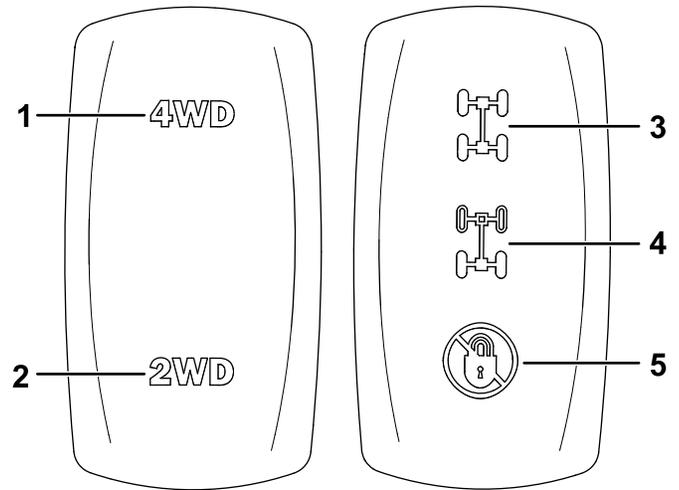

Figure 17
2. Press the 2-wheel drive/4-wheel drive switch (Figure 17) up to engage 4-wheel drive.
With your foot off the accelerator pedal, disengage 4-wheel drive by pressing the 2-wheel drive/4-wheel drive switch to the down position (Figure 17).
2. Press the differential-lock switch to the mid position to engage the rear differential lock (Figure 17).
Press the differential-lock switch to the up position to engage the front and rear differential locks (Figure 17).
With your foot off the accelerator pedal, disengage the differential lock(s) by pressing the differential-lock switch to the down position (Figure 17).